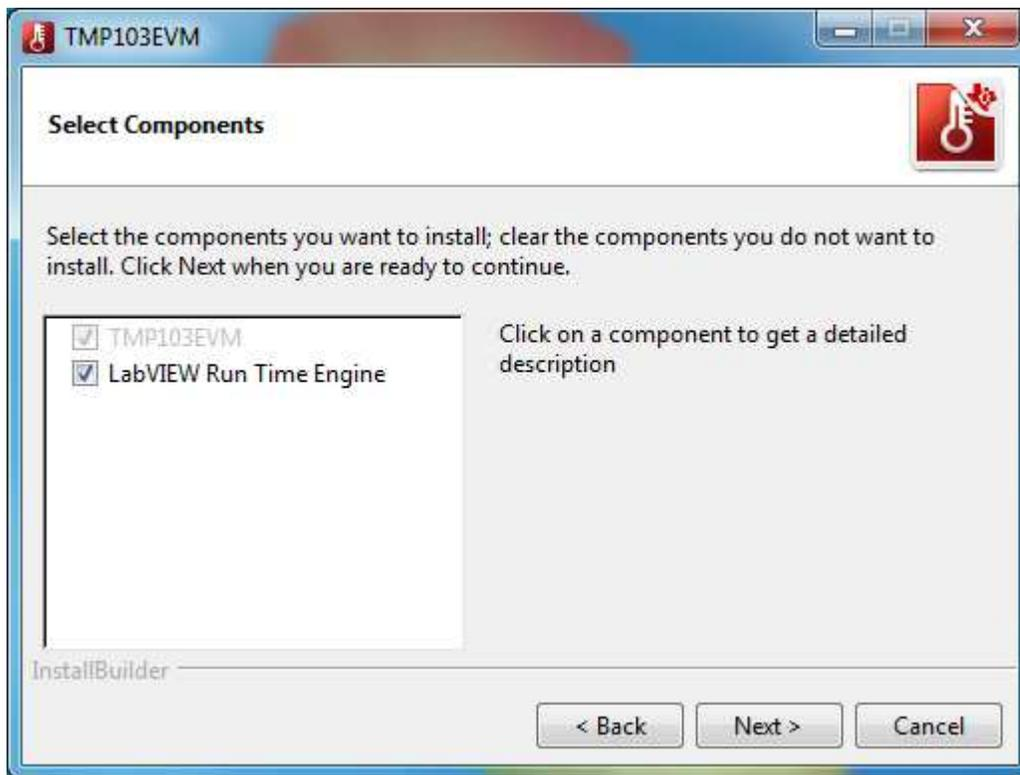

Figure 12. Select Components Installation
- For first-time installation, ensure the LabVIEW Run Time Engine is listed in the following summary as shown in Figure 12. TMP103EVM GUI is required LabVIEW 2016 f2 runtime engine for proper operation. Once the Next button is clicked, the progress bar opens and shows the installation of the software. It may take some time to download the LabVIEW Run Time Engine on the first installation. Users may be prompted to download the file when installing the software for the first time, especially if the LabVIEW Run Time Engine checkbox is checked.